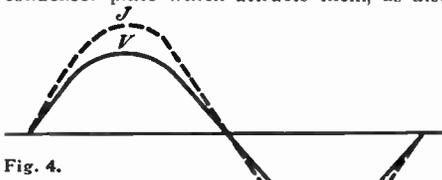
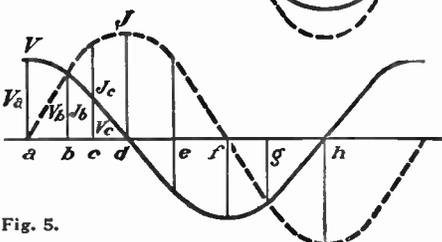
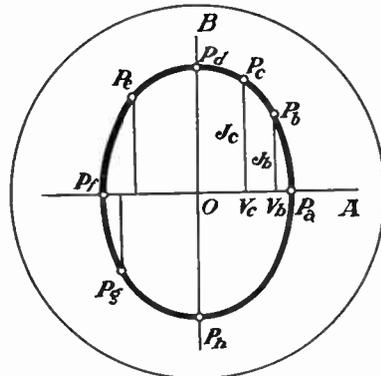
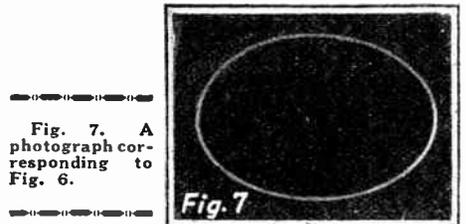

Fig. 4.
Fig. 5.
Fig. 6. The line traced by the cathode ray on the fluorescent screen when the oscillograph is excited by a sinusoidal alternating current.
Fig. 7. A photograph corresponding to Fig. 6.
Fig. 3. By adding a few drops of water to a mixture of zinc dust and iodine crystals, a violent reaction is produced. Fig. 4. Passing a strong current of hydrosulphuric acid gas over lead peroxide, an energetic oxidation takes place, perhaps igniting the gas.
Fig. 4 shows the formation of water when hydrogen is burned. In Fig. 5 a platinum wire is heated to redness by an electric current and a bell jar full of hydrogen is placed over it. It will cool the hot wire. In Fig. 6 is shown a flame of oxygen burning in a bell jar of hydrogen, while the hydrogen burns around the mouth of the bell jar.
Hydrogen absorbs heat readily. This property can readily be demonstrated by the apparatus shown in Fig. 5. It consists of a fine platinum wire soldered in two pieces of glass tubing, the terminals are connected to an electric battery. The exposed parts of the wire will soon be heated to redness. This is due to the resistance offered to the passage of the current. If a bell jar is filled with hydrogen gas and held over the hot wire, the redness will soon disappear. This proves that hydrogen is a good conductor of heat.
Fig. 4 shows two sinusoidal waves in phase. Fig. 5 shows the effects on the cathode ray of the electrostatic field (V) and o. the magnetic field (J).
For alternating current the relative position of condenser plates and coils has been so chosen, that their respective deviations are at right angles to one another and both will show to the eye luminous lines in consequence of the rapid change of polarity, the two lines forming a cross on the screen. Connecting condenser and coils to the same circuit (wiring diagram, Fig. 3) one would think that they would compensate under 45 degrees; this however, is not the case, as intensity and tension do not rise and drop simultaneously, as per Fig. 4; their phases are stepped or lag according to Fig. 5 which shows a perfect alternating current with phases at 90 degrees to each other.
On comparing Figs. 5 and 6 we find the following: The circumference of Fig. 6 represents the phosphorescent screen, (O) its
center is at the same time the luminous point caused by the electrons when condenser and coils are inactive, (A) is the horizontal deviation, caused by the condenser, (B) is the vertical deviation of the coils. After closing the circuit we begin our observation at point (a) (Fig. 5), intensity $I=0$, tension $V=(V_a)$. The projection of the two points coinciding on the horizontal axis, we may assume the point (Pa) of Fig. 6 to indicate their position with (O-Pa) equal to (V_a) on Fig. 5 as the maximum deviation caused by condenser.
Advancing we find (Pb), (Pc), until (Pd) is reached, when (O-Pd) equals (d-I) of Fig. 5, representing the maximum intensity with $(V)=0$, both points coinciding on the vertical axis. (Pe), (Pf), (Pg), (Ph) back to (Pa) is the path of the ray of electrons representing one complete wave and Fig. 7 is the impression it leaves on a photographic plate. This so-called "Lissajou figure" has the shape of an ellipse with its centers on the deviation axis when dealing with alternating current of phases at exactly 90 degrees. To ascertain the nature of such a current it is only necessary, after the photograph has been taken to separate the deviations by switching off in turn condenser and coils. Leaving the